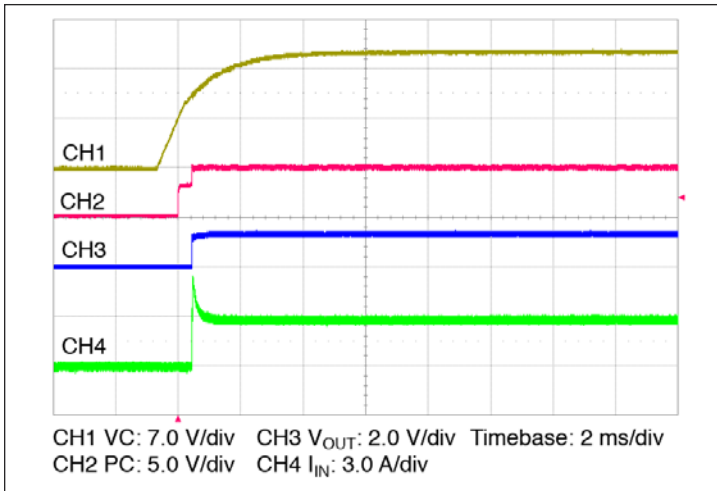

Figure 11 — Start up from application of VC;
- Stand-alone operation (VC applied after V_{IN}): In this case the VTM module output will begin to rise upon the application of the VC voltage (See Figure 11). The Adaptive Soft Start Circuit (See Section 11) may vary the output rate of rise in order to limit the inrush current to its maximum level. When starting into high capacitance, or a short, the output current will be limited for a maximum of 120 μ /sec. After this period, the Adaptive Soft Start Circuit will time out and the VTM module may shut down. No restart will be attempted until VC is re-applied or PC is toggled. The maximum output capacitance is limited to 64400 μ F in this mode of operation to ensure a successful start.